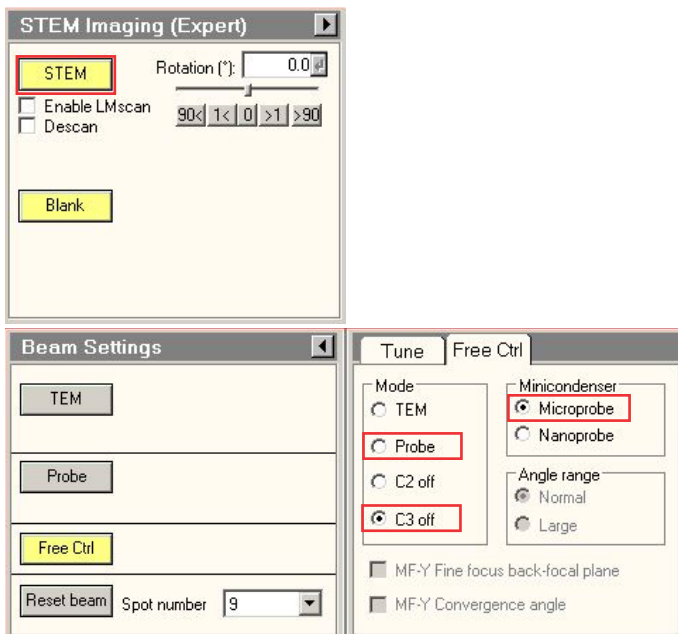

Figure 7. Screenshots showing the preferred STEM mode within UltiMono.
- Activate **STEM** in the STEM control panel and ensure the activation of Microprobe mode in the beam settings control panel (Figure 7). Alternatively, load a pre-aligned microprobe STEM FEG register with an unchecked gun in the FEG register control panel.
- Choose either two-condenser mode (**C3 off** checked) in beam settings control panel (Figure 7) or three-condenser mode. Two-condenser mode is strongly recommended, as it is easier to tune the alignments. Three-condenser mode can be used as an exception when a specific or variable convergence angle is needed for the experiment.